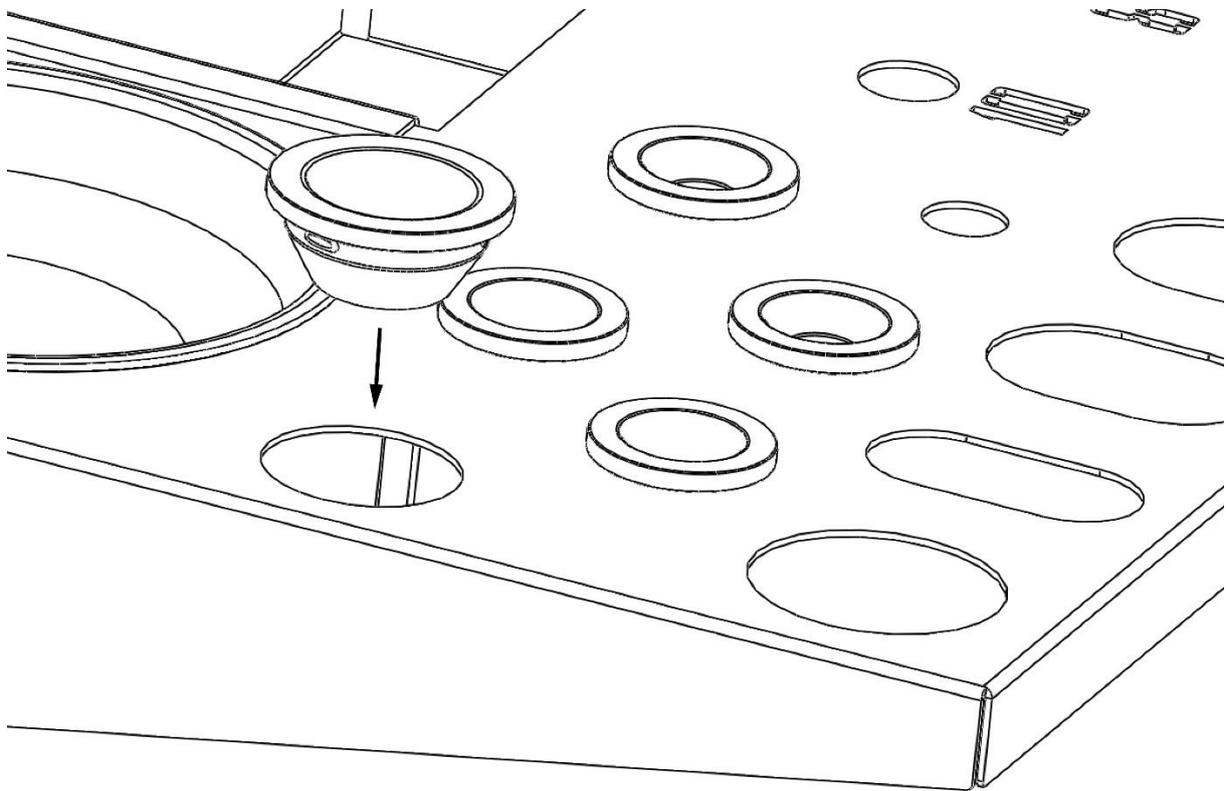

Figure 11: Optional plastic holders for screwdrivers
6. Replace the plastic cover onto the Add-On arm (Figure 11). Use a rubber mallet or similar soft tool.
- ◆ The included plastic holders can be used to prevent screwdrivers from tilting in the Tool Tray. They are installed by inserting them into the cutouts from the top and pushing them in (Figure 11)